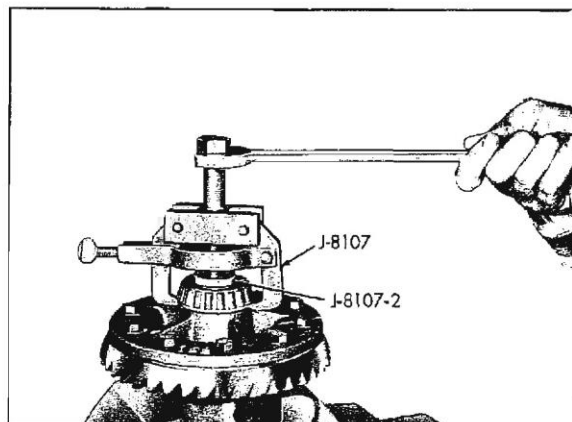

Fig. 4-25 Removing Differential Side Bearing
6. If bearing inspection indicates that bearings should be replaced, insert differential case in vise and remove side bearing using side bearing puller J-8107, and adapter J-8107-2 (Fig. 4-25).